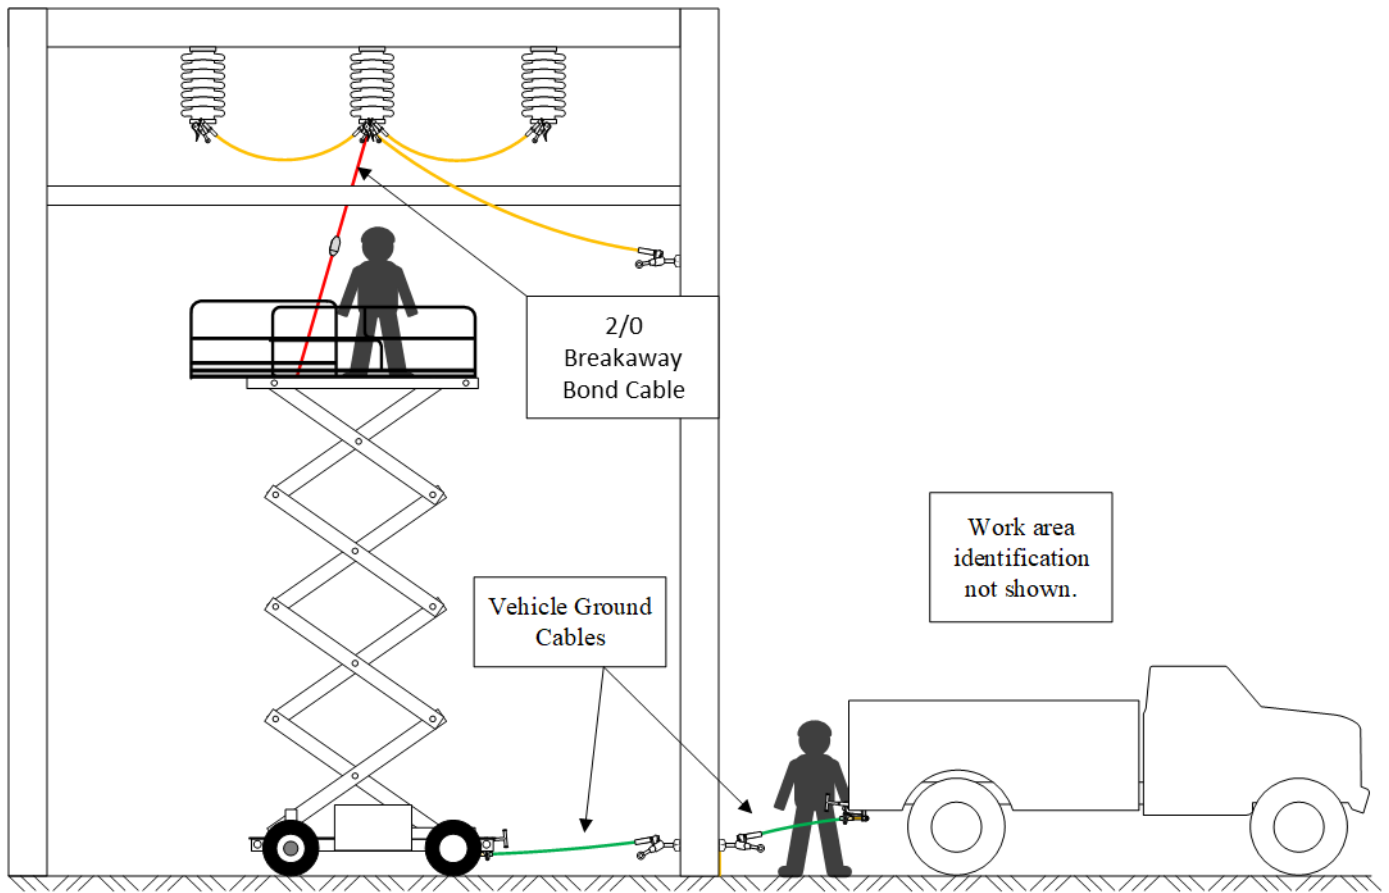

Figure 1 – Example of a Grounded & Bonded Aerial Lift
- 7.1.2 Grounded before work begins, with one (1) ground cable with a minimum size of 4/0 AWG, see Figure 1.
8.2 Non-Insulated aerial devices actively engaged in work on de-energized equipment shall be bonded to the properly grounded equipment being worked on, refer to Figure 1.